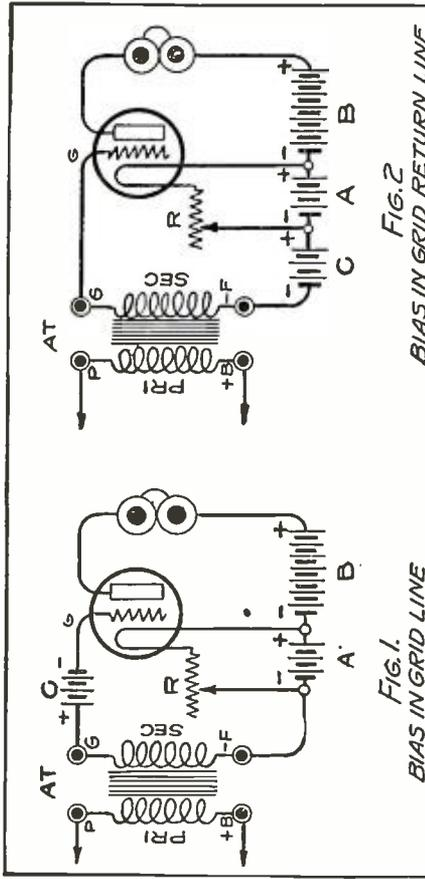
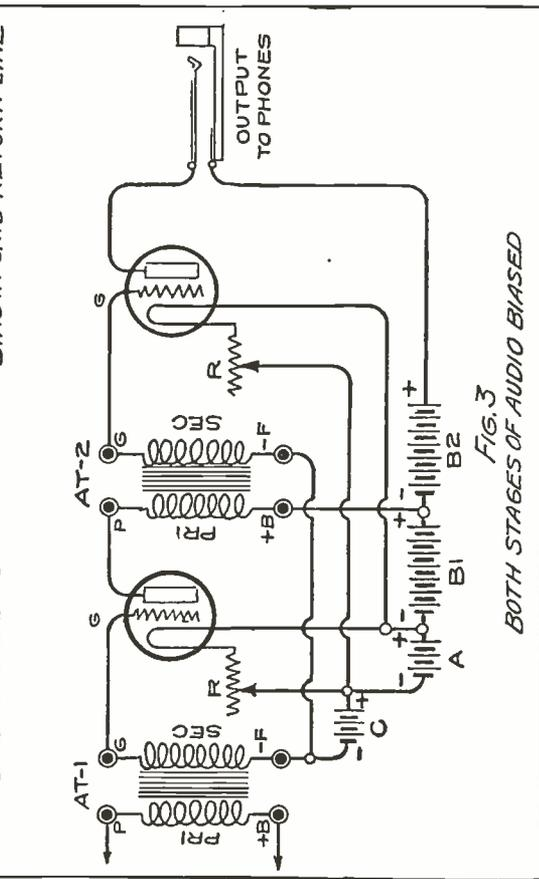
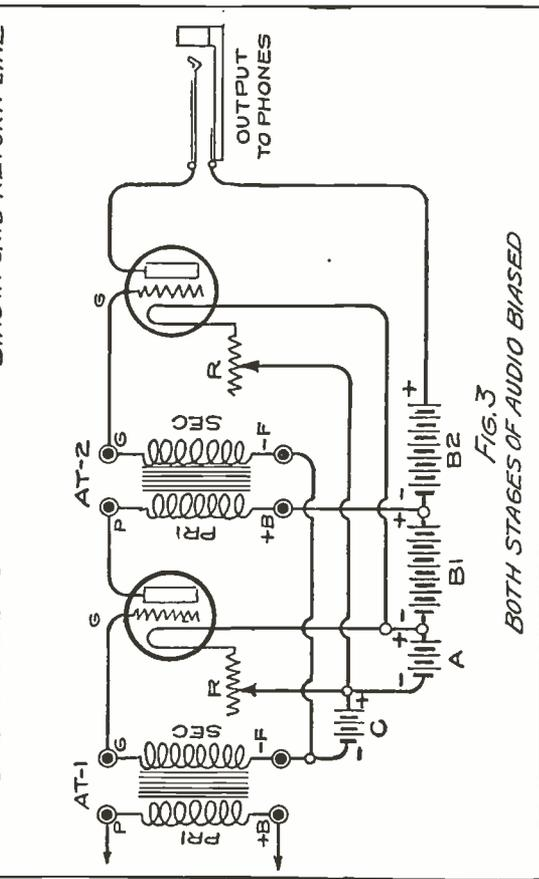

FIG. 1.
FIG. 2
FIG. 3
Fig. 1 on the adjacent data sheet shows the biasing battery "C" in the grid line of a single stage audio circuit. It will be seen that the negative of the "C" battery is placed toward the grid, and in addition to the negative pole of the "A" battery maintains a negative potential on the tube. That is all the secondary in circuit (SEC) of the audio frequency transformer (AT).
Fig. 2 shows the same effect obtained by placing the biasing battery in the grid return line, but it is likely that this is not so effective as the direct connected battery shown in Fig. 1. While the current drawn from the battery is so small that there cannot be much resistance loss, due to the resistance of the secondary winding of the transformer, yet there is an impedance loss which is likely to pull down the voltage slightly on extremely loud signals, and which would therefore tend to reduce the bias at the time when biasing was most needed. However, this system works very well and is used extensively.
Fig. 3 shows a two stage audio amplifying circuit in which a single "C" battery biases the grids of both tubes by a connection of the negative of the "C" battery to the secondaries of both transformers. The battery is therefore in the grid lines. The same results could of course be obtained by the use of two "C" batteries, one battery being placed directly in the grid line of each tube as in Fig. 1. The system outlined in Fig. 3, however, saves one battery and simplifies construction. The audio frequency transformers are shown at (AT-1) and (AT-2). Two "B" batteries (B1-B2) give minimum distortion but only (B1) need be used.